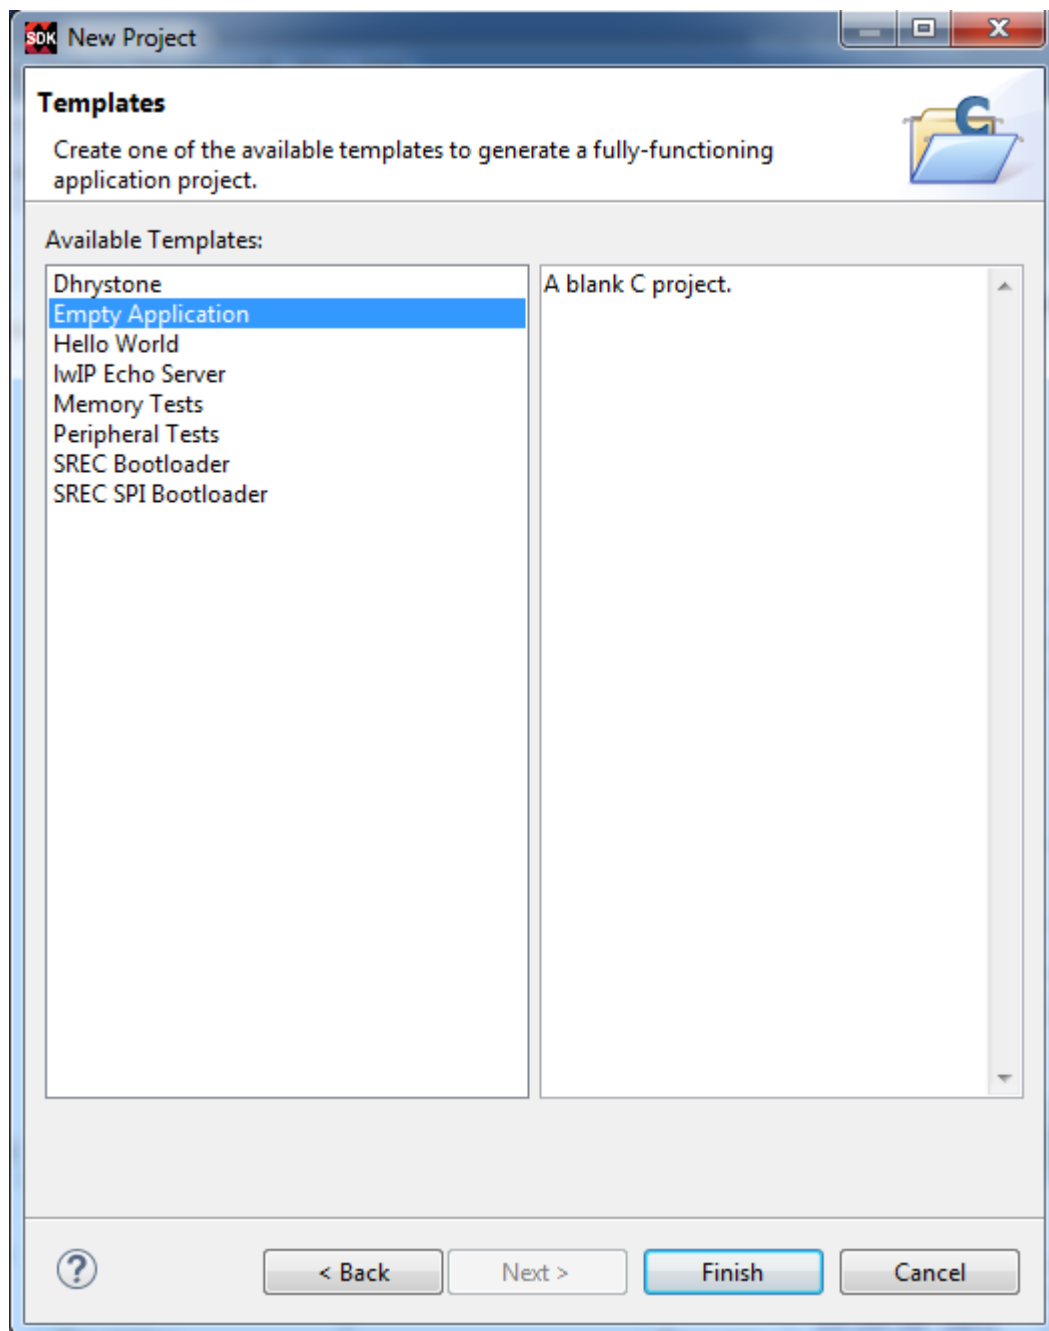

Figure 9.3.3. Software Template Selection in Vivado.
- If you press <next>, the software Template window appears, seen in figure 9.3.3. Select an Empty Application and press Finish.